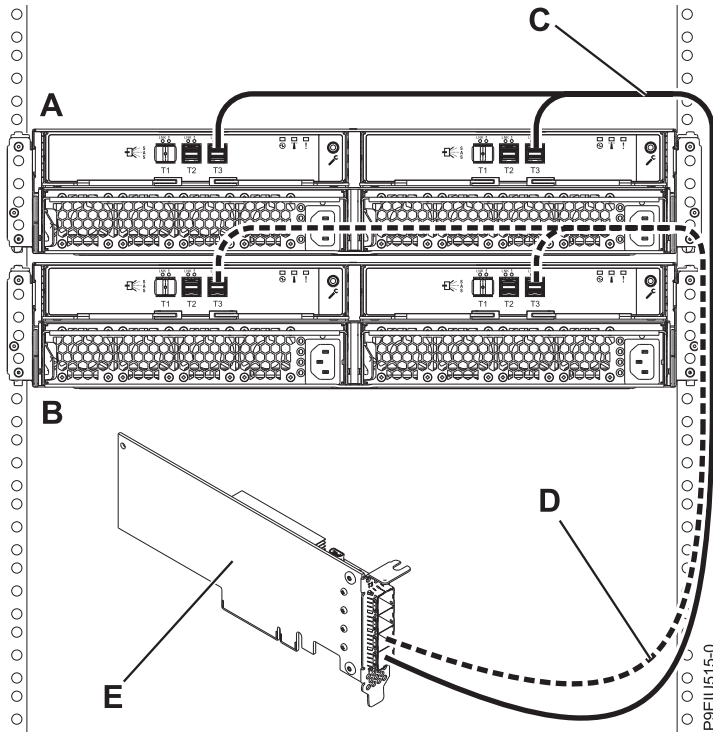

Figure 14. Mode 1 connection of two ESLL or ESLS storage enclosures by using YO12 cables to a single FC EJ0J or FC EJ0M SAS adapter
14. Complete a mode 1 connection of two enclosures (**A and B**) by using YO12 cables (**C and D**) to a single FC EJ0J or FC EJ0M SAS adapter (**E**), as shown in Figure 14, and then continue with “Connecting cables, power cords, and installing covers” on page 20.